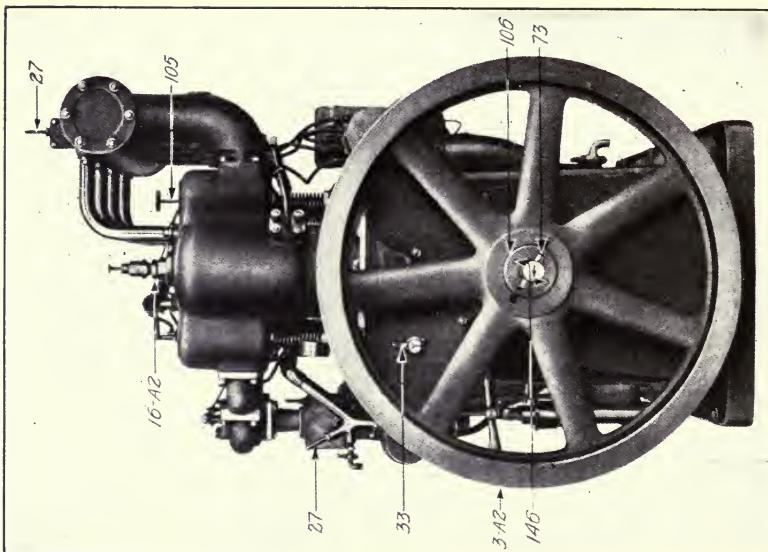

Fig. 72.
**57d. Miscellaneous parts; engine viewed from flywheel end (flywheel in place).** (See Figs. 72, 73, and 74.)